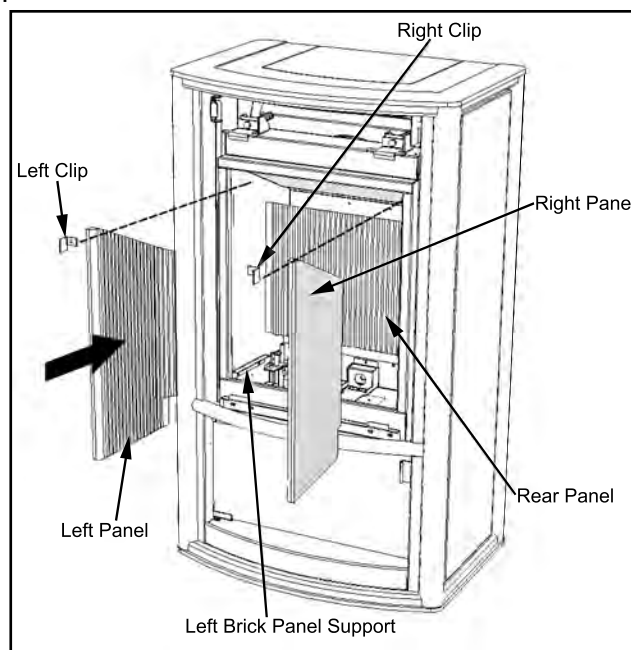

Figure 66: Firebox Liners Installation.
7. While holding the rear ceramic liner from falling forward, install the left and right liners by sliding them in against the sides of the firebox and up to the rear liner (refer to Figure 66).